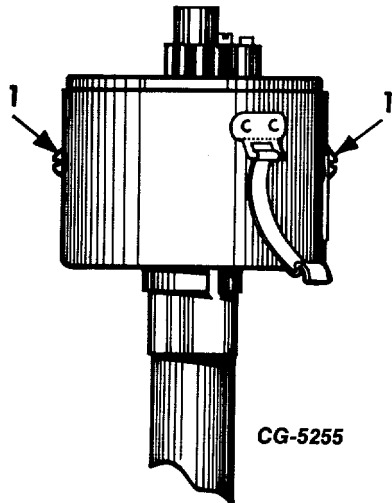

Fig. 14 Distributor Plate Mounting Screw
- a. Remove distributor plate (control unit) mounting screws. (Figure 14).